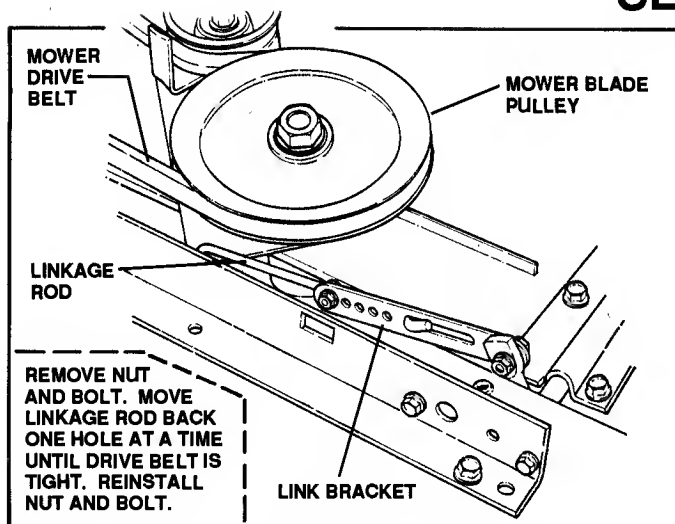

FIGURE 25
5. Remove nut and bolt from Linkage Rod. Locate Rod one hole further back on Link Bracket and reinstall nut and bolt. See Figure 25.